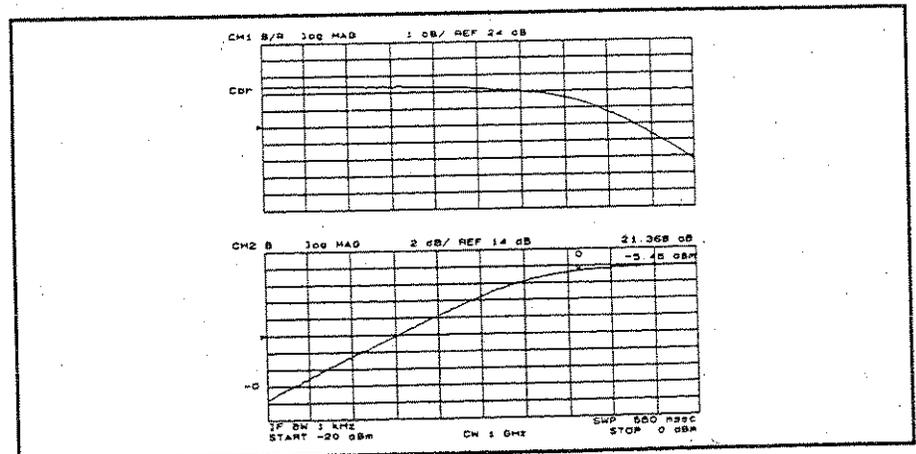

Figure 4-24.
7. Press **[Display]** DUAL CHAN on OFF to ON off to display both channel (see Figure 4-24). Note that you must subtract 3 dB from the input value readout. This is necessary because the input signal is attenuated by the power splitter that is between the RF OUT and the DUT.